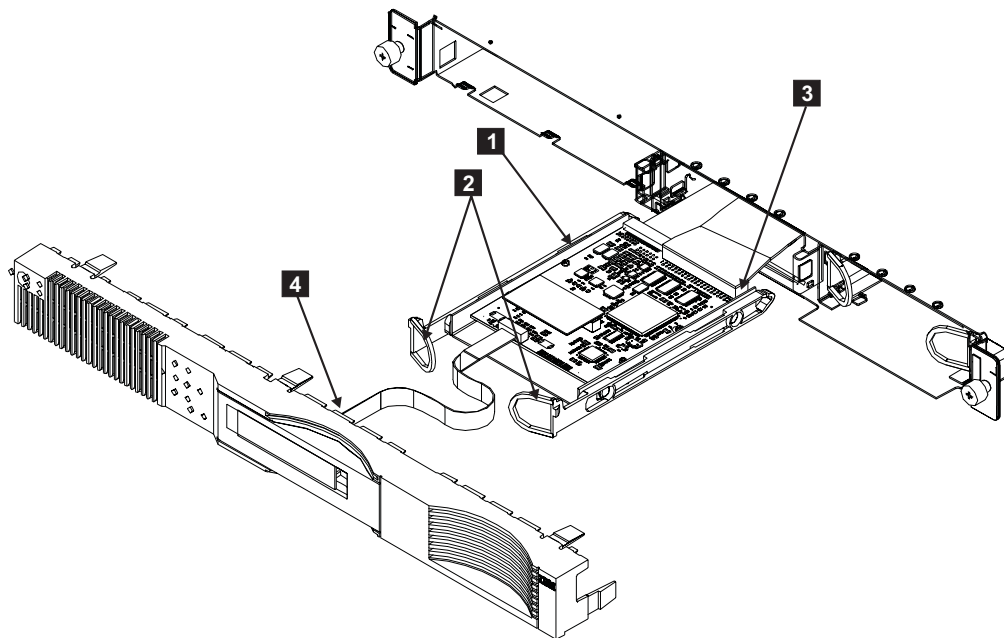

Figure 65. SAN Volume Controller 2145-4F2 service controller
5. Pull the two handles (**2** in Figure 65) to release the latches.